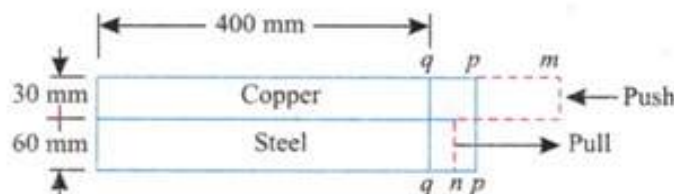

Figure 1
2. A copper flat measuring 60 mm × 30 mm is brazed to another 60 mm × 60 mm mild steel flat as shown in Figure 1. If the combination is heated through 120°C, determine